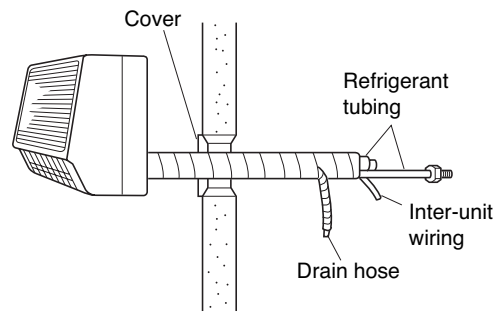
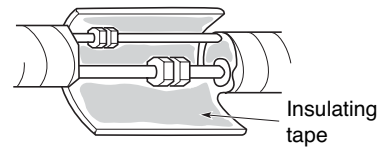

Fig. 3-69
Fig. 3-70
- (1) Shape the refrigerant tubing so that it can easily go into the hole. (Fig. 3-69)
- (2) Push the wiring, refrigerant tubing and drain hose through the hole in the wall. Adjust the indoor unit so it is securely seated on the wall fixture.
- (3) Carefully bend the tubing (if necessary) to run along the wall in the direction of the outdoor unit and then insulate to the end of the fittings. The drain hose should come straight down the wall to a point where water runoff will not stain the wall.
- (4) Connect the refrigerant tubing to the outdoor unit. (After performing a leak test on the connection, insulate it with insulating tape. (Fig. 3-70)) Also, refer to Section 10-5. Connecting Tubing between Indoor and Outdoor Units.